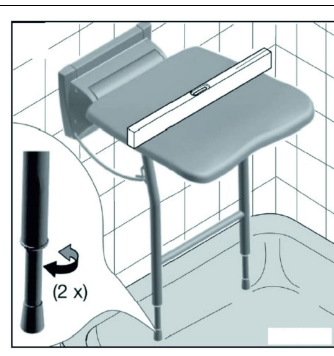

Fig. 20
**Adjusting the Legs (Fig. 20)**
1. Rotate the leg extension tip counterclockwise (for lengthening) or clockwise (for shortening). Use a spirit level to level out correctly. (Fig. 20)